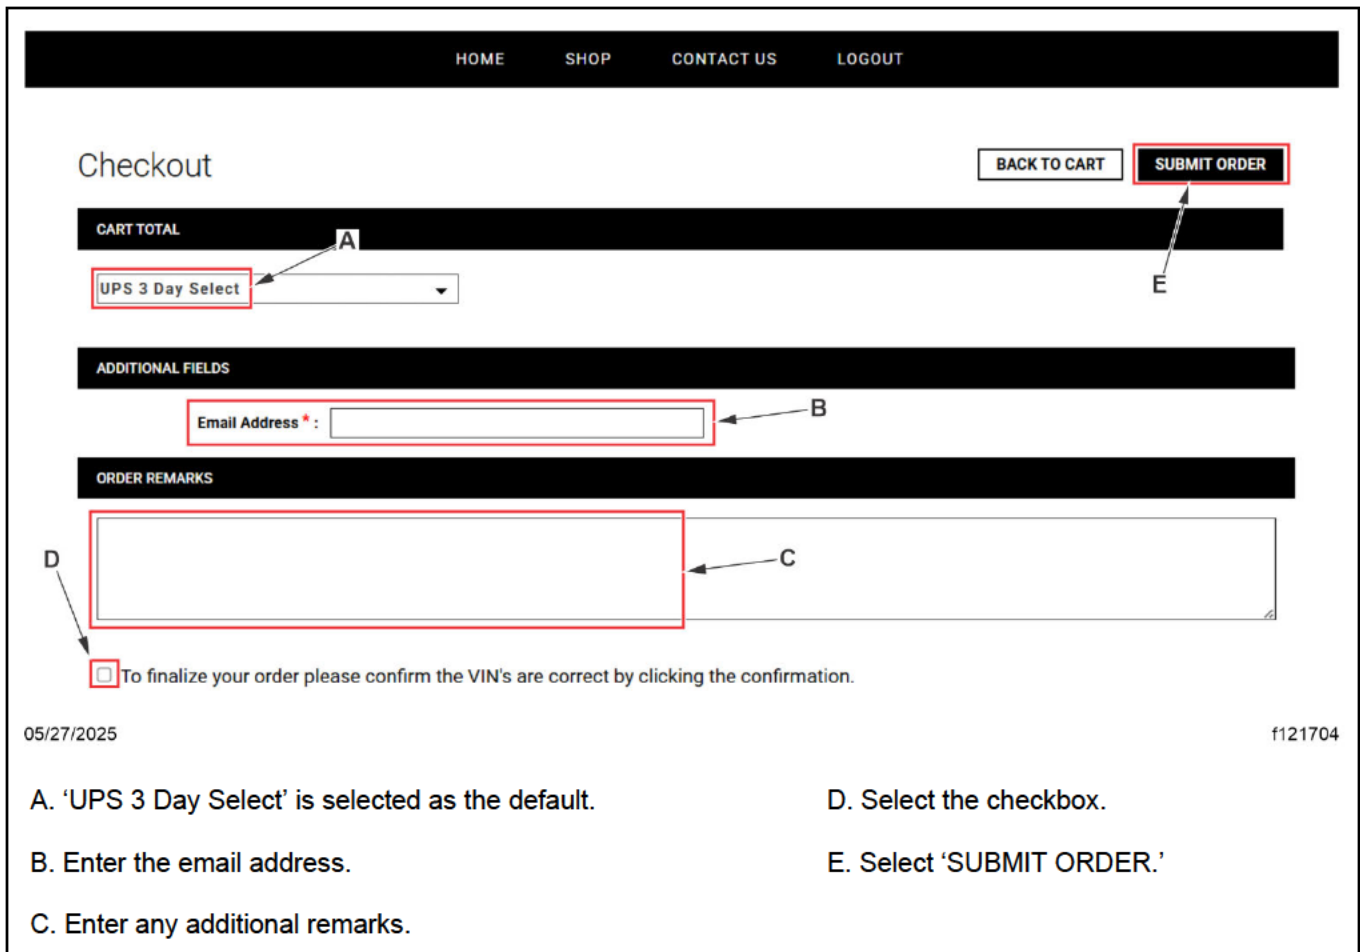

Fig. 11, Checkout Screen
11. On the 'Checkout' screen, 'UPS 3 Day Select' is selected as the default shipping. See Fig. 11.